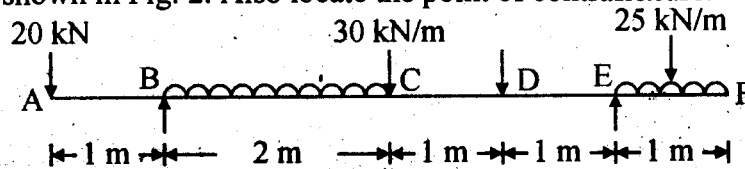

Fig. 2
- (b) Draw Shear Force Diagram (SFD) and Bending Moment Diagram (BMD) for the beam shown in Fig. 2. Also locate the point of contraflexure.